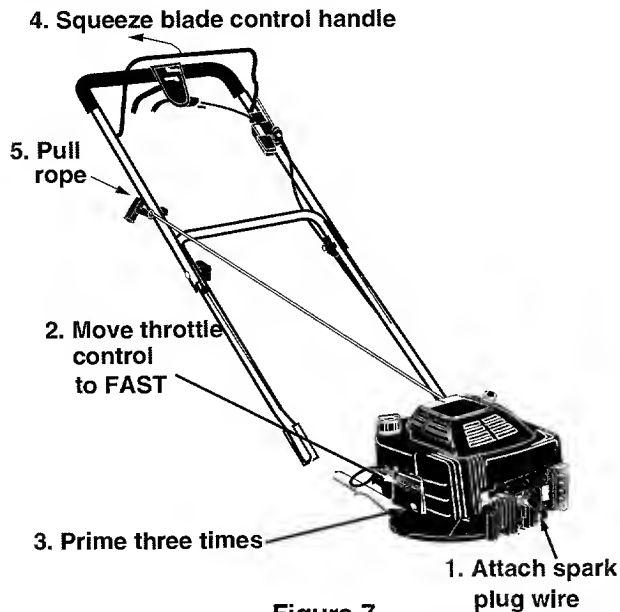

Figure 7
- Grasp blade control handle and pull rope out slowly until engine reaches the start of compression cycle (rope will pull slightly harder at this point). See Figure 7. Let the rope rewind slowly.